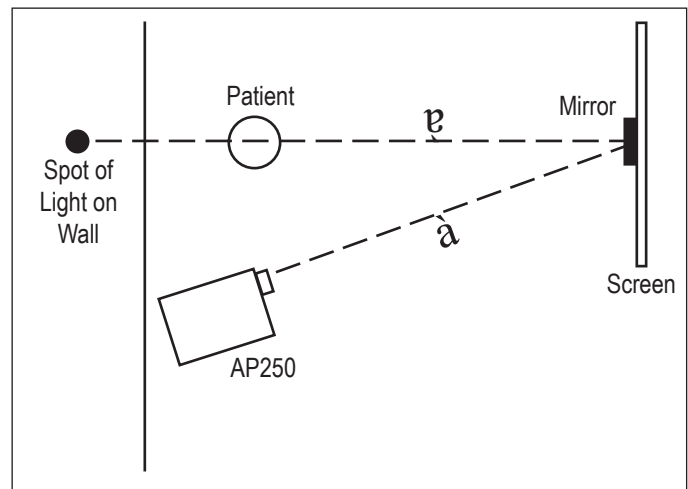

Figure 3 - Checking three-dimensional alignment.
7. Move the AP250's focusing controls (see page 5, # 11 & 12) until the 20/200 or .01 "Z" is in sharp focus and fills the bracket on the Letter Sizing Chart, as shown in Figure 3.